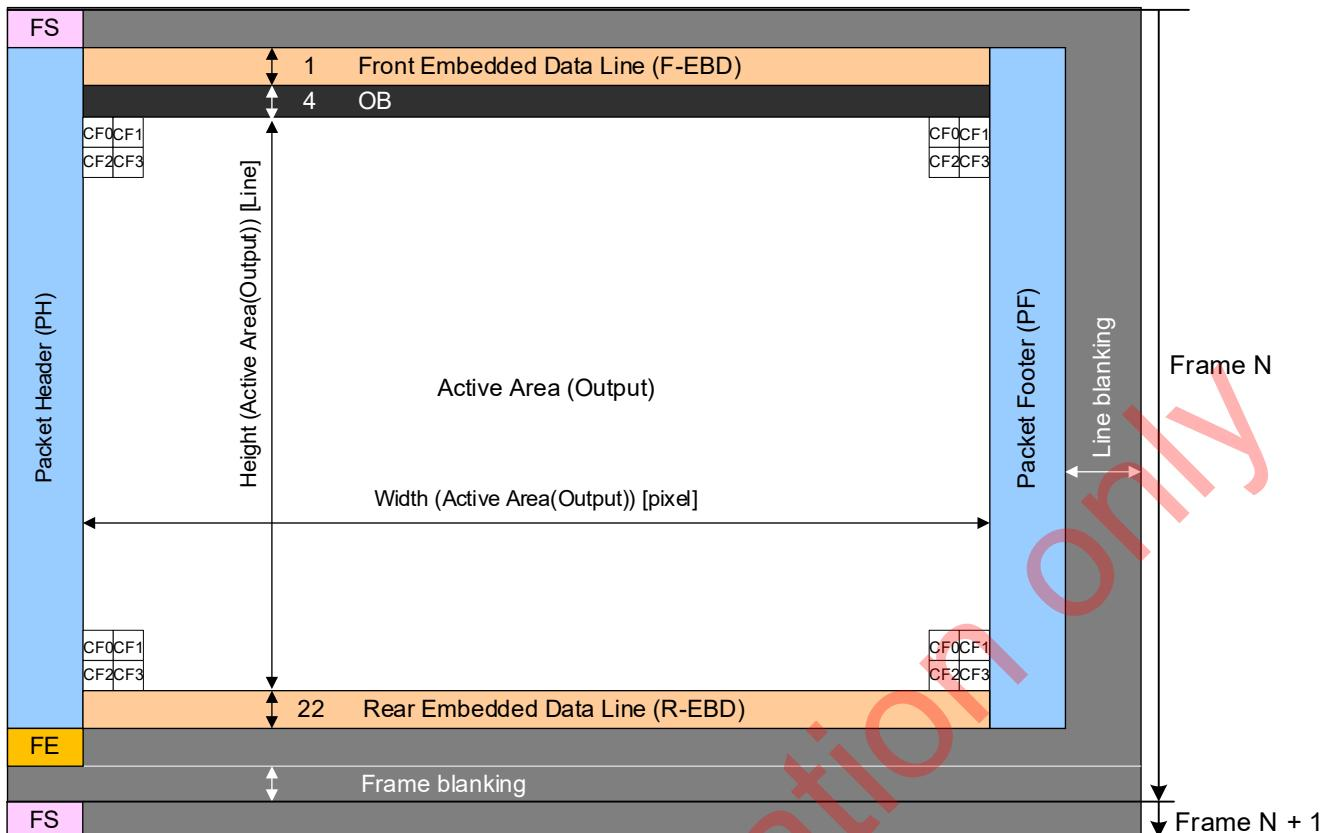

Figure 2-8 Frame Structure in Normal, HDR (UC) or HDR (PWL) Mode
- “**Figure 2-8**” illustrates the frame structure in Normal, HDR (UC) or HDR (PWL) mode.